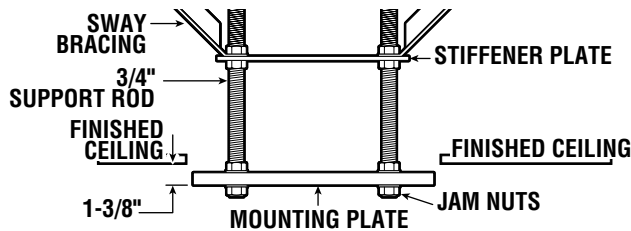

Figure 2. Mounting Plate Installation
b. Install the SKYTRON mounting plate on the threaded rods between jam nuts. The plate should normally be located 1-3/8" off the finished ceiling (measured from the bottom of the plate) and accurately leveled, within 0.1 degree, using a digital level. Tighten the jam nuts securely. See figure 2.